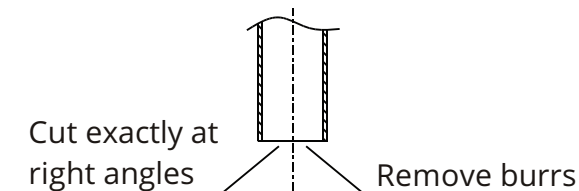

Fig 5.3
2. Remove burrs with the cut surface facing downward so that the chips do not enter the pipe. See **Fig 5.3**.